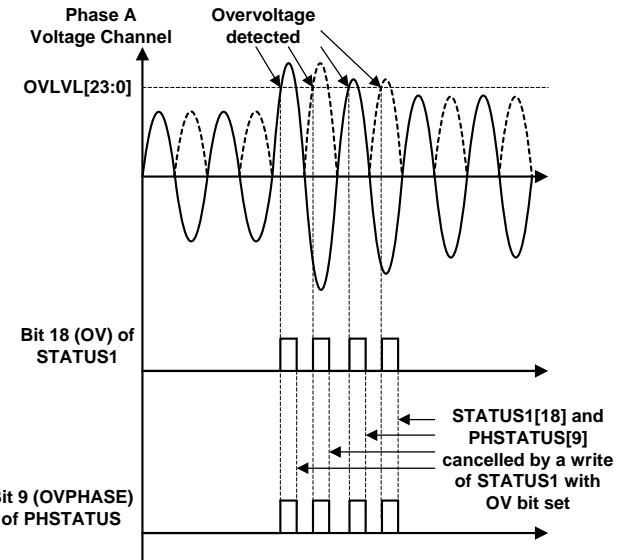

Figure 33. ADE7858 Overvoltage Detection
The ADE7858 detects when the instantaneous absolute value measured on the voltage and current channels becomes greater than thresholds set in OVLVL[23:0] and OILVL[23:0] 24-bit unsigned registers. If bit 18 (OV) in MASK1[31:0] register is set,  $\overline{IRQ1}$  interrupt pin is driven low in case of an overvoltage event. There are two status flags set when  $\overline{IRQ1}$  interrupt pin is driven low: bit 18 (OV) in STATUS1[31:0] register and one of bits 11, 10, 9 (OVPHASE[2:0]) in PHSTATUS[15:0] register identifying the phase that generated the overvoltage. The status bit 18 (OV) in STATUS1[31:0] register and all bits 11, 10, 9 (OVPHASE[2:0]) in PHSTATUS[15:0] register are cleared and  $\overline{IRQ1}$  pin is set back high by writing STATUS1[31:0] register with the status bit set to 1. Figure 33 presents overvoltage detection in phase A voltage. Whenever the absolute instantaneous value of the voltage goes above the threshold